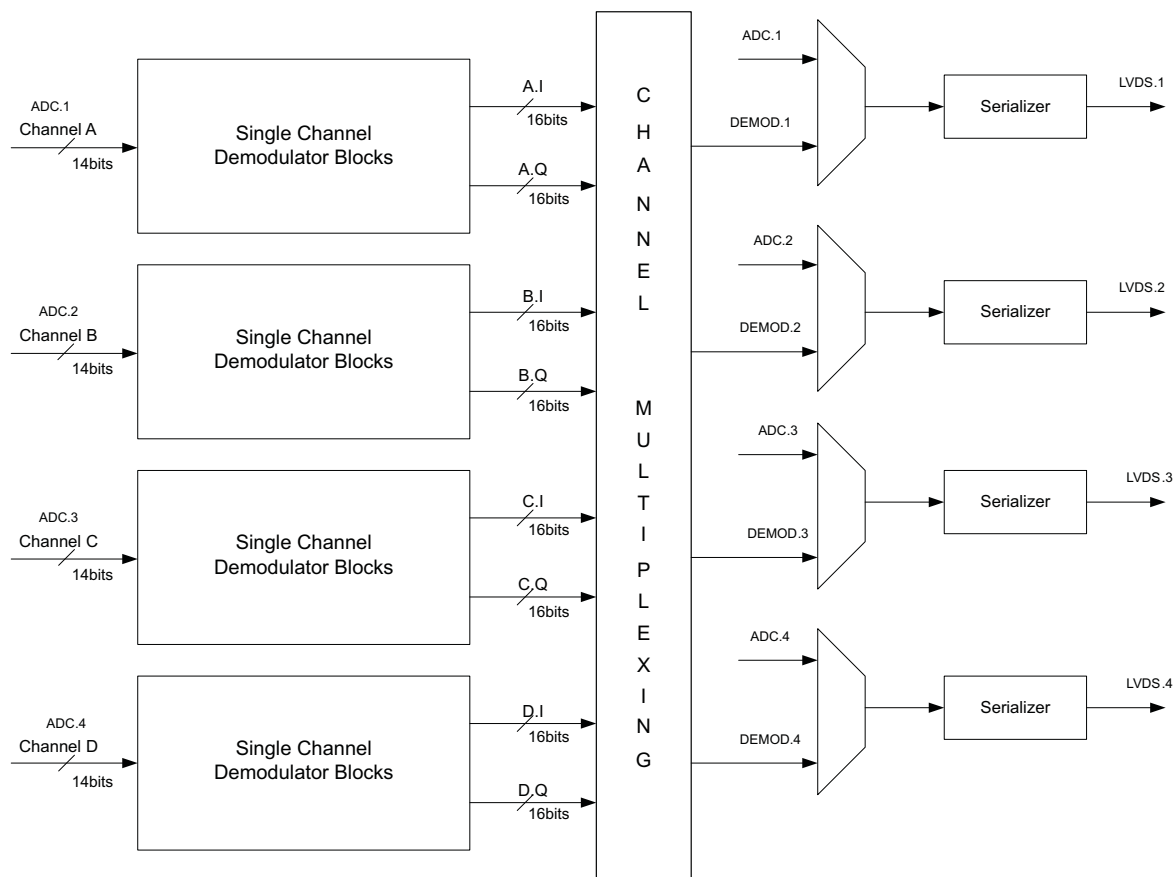

Figure 76. Channel Multiplexing
3. The decimator block has two functions: decimation filter and down sampler. Decimation filter is a variable coefficient symmetric FIR filter and its coefficients can be given using coefficient RAM. Number of taps of FIR filter is $16 \times$ decimation factor (M). For decimation factor of M, $8M$ coefficients must be stored in the coefficient bank. Each coefficient is 14-bit wide. Down-sampler gives out 1 sample followed by $M - 1$ samples zeros.
4. In Figure 76, channel multiplexing is implemented for flexible data routing: